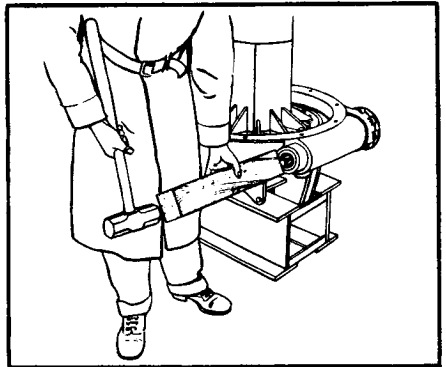
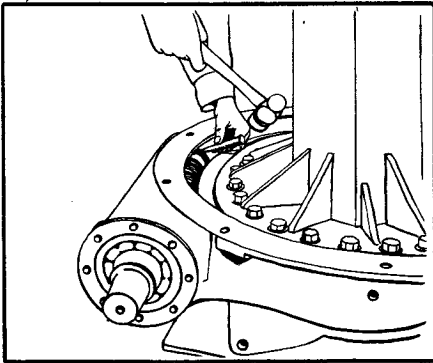

Figure 41 Removing Worm Shaft
Figure 42 Prevention of Damage to Worm Gear
Using wrench No. 152-1731 remove nut (1) on worm shaft, Figure 40. Unbolt the worm shaft bearing cover and drive out the worm shaft, Figure 41, rotating the worm shaft counterclockwise as the shaft is driven out. In driving out the worm shaft care should be taken to keep the bearing driven back in the housing, Figure 42, thus preventing damage to the worm gear.